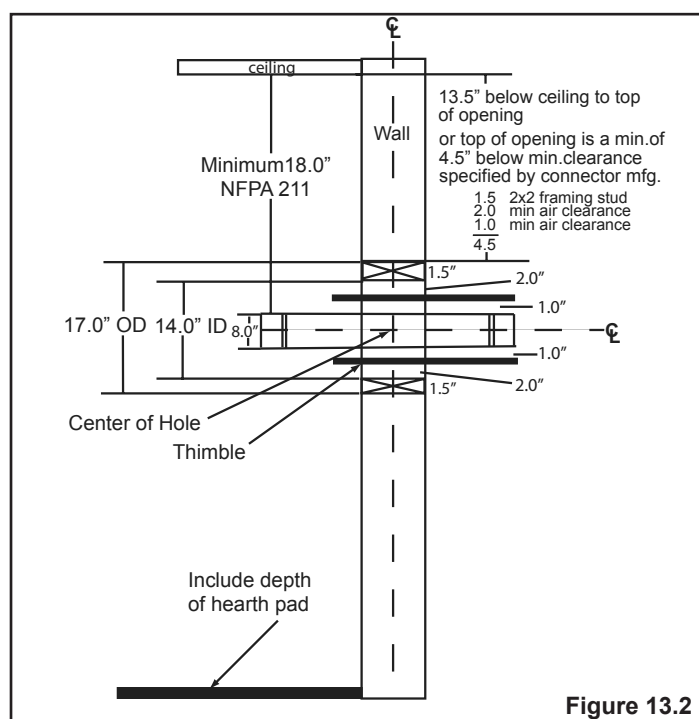

Figure 13.2
- Top of wall opening is a minimum of 13-1/2 inches (343mm) from ceiling or 4-1/2 inches (114mm) below minimum clearance specified by chimney connector manufacturer. NFPA 211 minimum vertical clearance of 18 inches (457mm) from chimney connector and ceiling or minimum recommended by chimney connector manufacturer. **Figure 13.2**
1. Open inside wall at proper height for the chimney connector to entry the masonry chimney. **Figure 13.2**
3. Construct a 17 inch x 17 inch (432mm x 432mm) outside dimension frame from 2 x 2 framing lumber to fit into wall opening. Inside opening of frame should be no less than 14 inch x 14 inch (356mm x 356mm). **Figure 13.2**